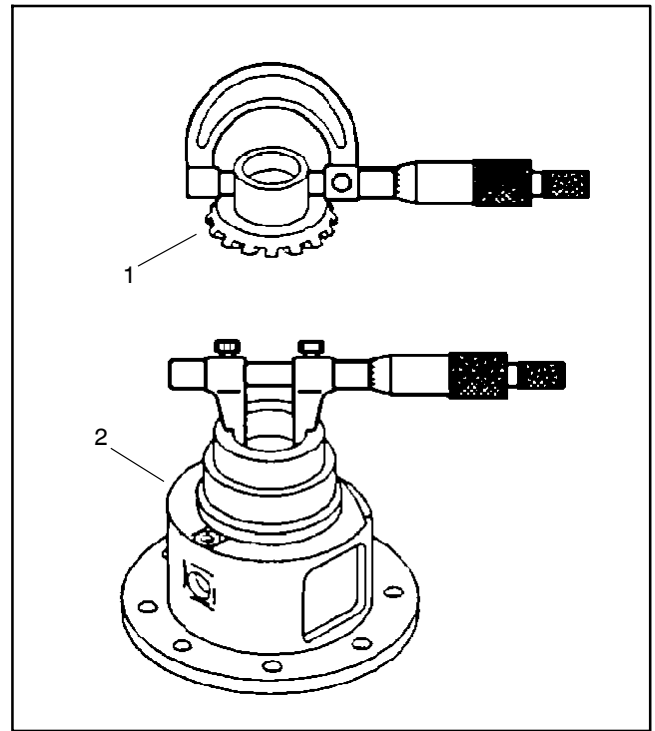

Figure 42
1. Measure the differential side gear O.D. and the differential case I.D. to determine the side gear to case clearance (Fig. 42). Replace components as necessary.